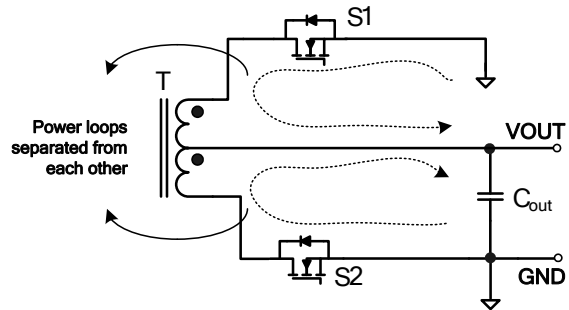

Figure 10: System Power Loop
1. Place a decoupling capacitor no smaller than  $1\mu\text{F}$  from  $V_{DD}$  to PGND close to the IC for adequate filtering (see Figure 10).
1. Keep the two channels' power loops separated from each other (see Figure 10). *This minimizes the interaction between the two channels' power loops, which may affect the voltage sensing of the IC.*